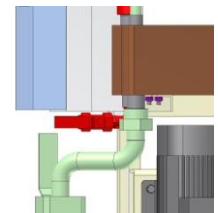

Figure 6.2-5
4. Carefully pull / lift / turn out the HX11 (Figure 6.2-5).